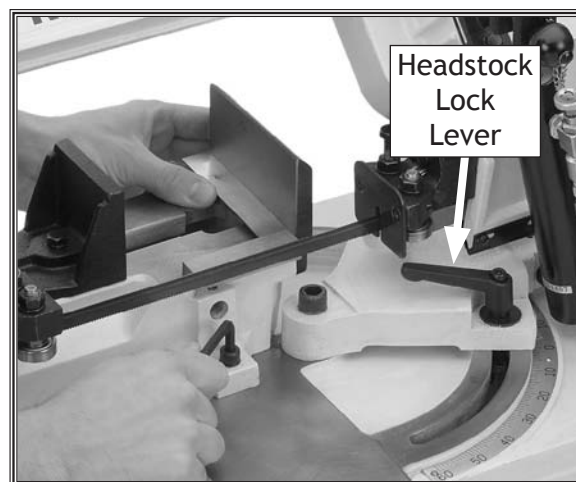

Figure 11. Squaring vise to blade, headstock, and table scale.
2. Using a 6mm wrench, loosen the two cap screws that hold the vise to the table, as shown in **Figure 11**.